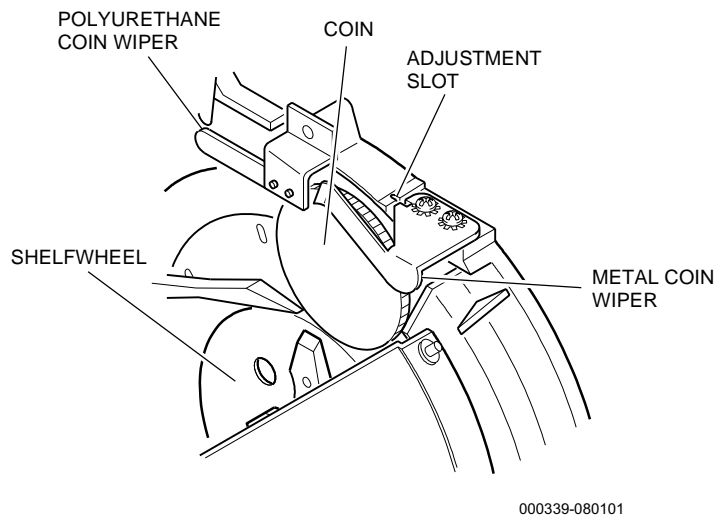

Figure 9-3. Hopper Metal Coin Wiper Adjustment - Large Coin
3. Check the metal coin wiper at the top of the main housing for correct height and confirm that the wiper is fastened securely. Refer to Figures 9-3 and 9-4 for correct clearance.
To adjust the metal coin wiper on dollar and other large-coin hoppers, see Figure 9-3 and proceed as follows.